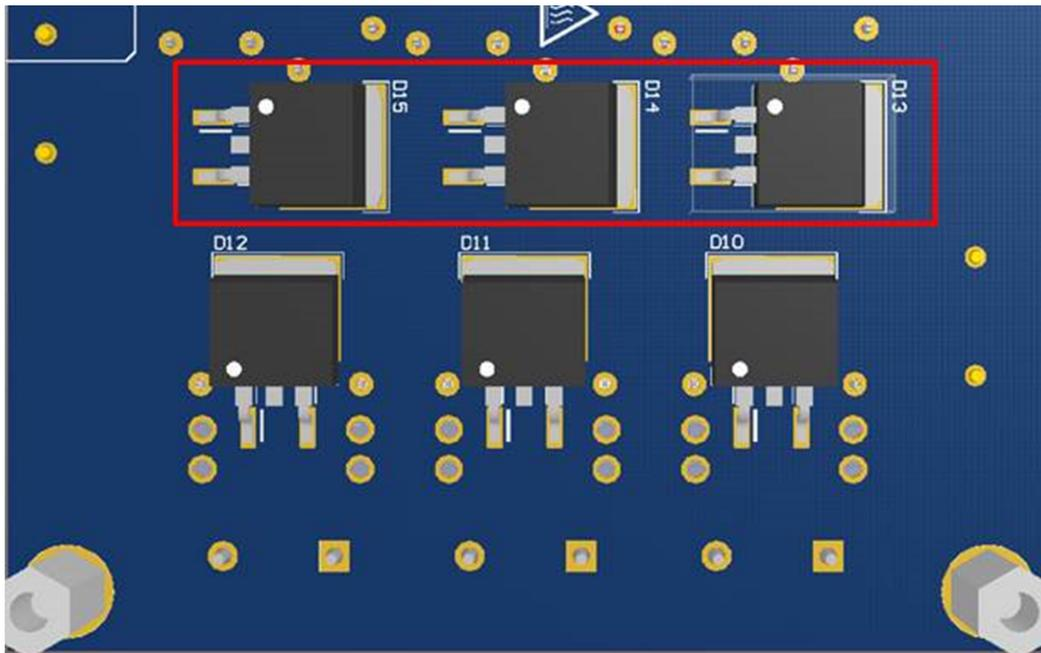

Figure 7. Low-Side Diodes
1. Install the D13, D14, D15, or all three diodes, depending on which low-side FET will be driven (see Figure 7).